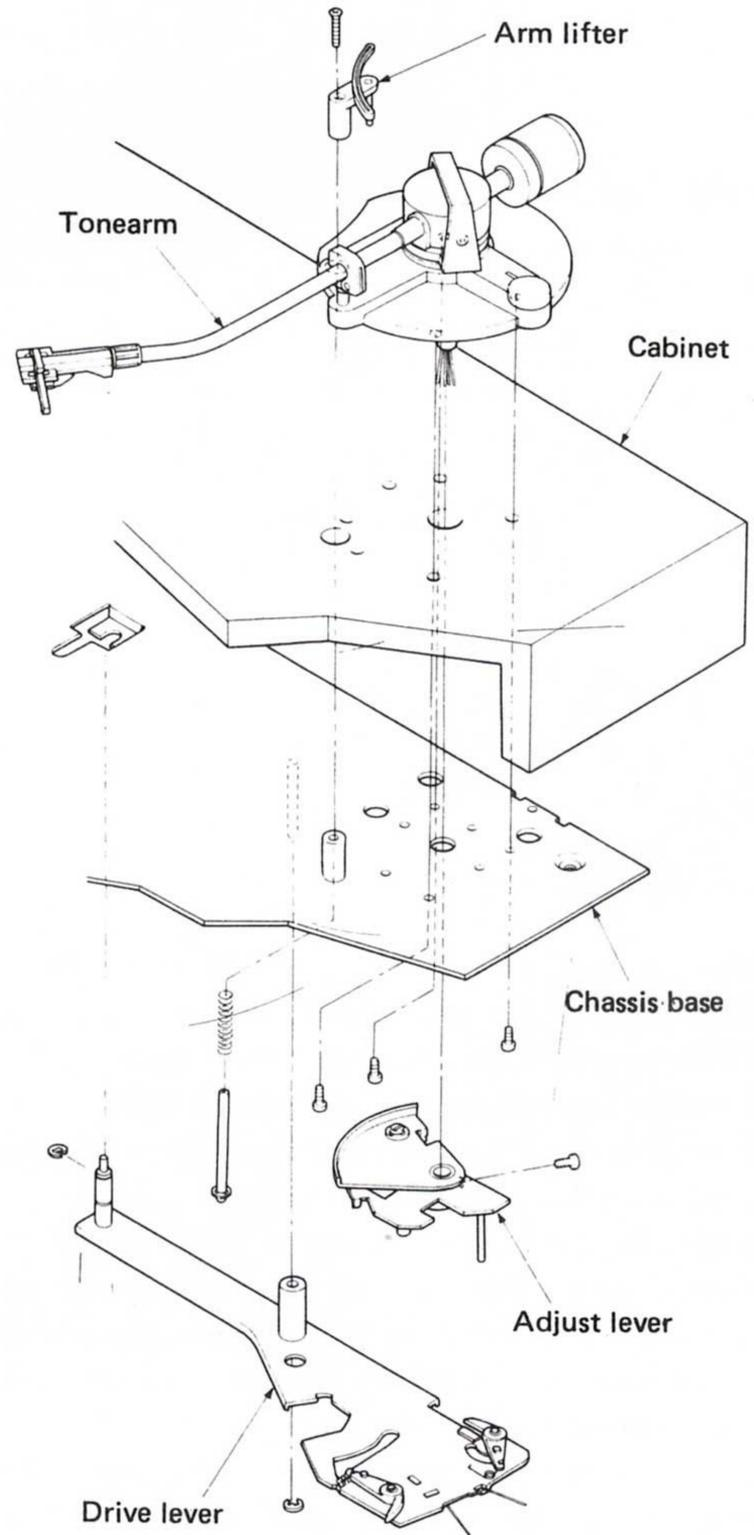

Fig. 3
- (1) Remove the bottom plate from the set.
- (2) After removing the two E-rings for the arm drive lever, pull out the lever from the post.
- (3) Remove the screw for the arm lifter and remove the spring.
- (4) Disconnect the output lead wires of the tonearm.
- (5) After loosening the screw with which the adjust lever is fixed to the arm shaft, remove the adjust lever.
- (6) Now, the tonearm can be removed when the three screws used for securing the tonearm are unscrewed. (Fig. 3)